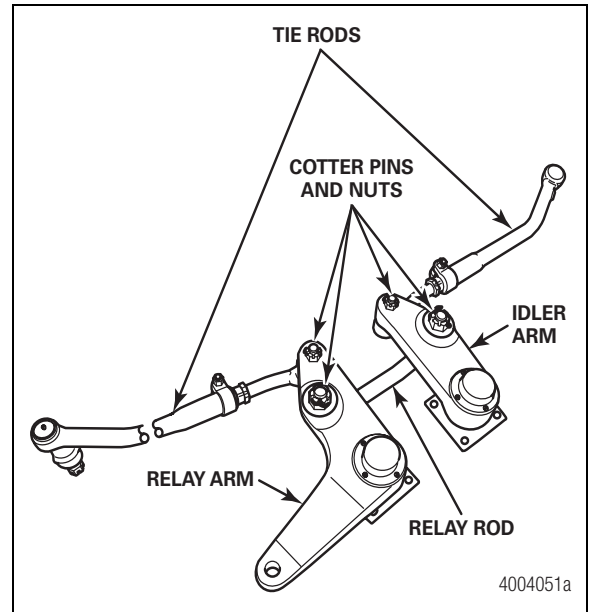

Figure 7.24
5. Position the relay rod into the idler arm and relay arm. Install the castle nuts that secure the relay rod to the idler arm and relay arm. Tighten the nuts to 245-260 lb-ft (332-353 N•m). Continue tightening the nuts to align the nut slot with the cotter pin hole. Do not back off the nuts to align the nut slot with the cotter pin hole. Install the cotter pins. Figure 7.24.
7. Position the tie rods into the idler arm and relay arm. Install the castle nuts and bolts that secure the tie rods to the idler arm and relay arm. Tighten the nuts to 245-260 lb-ft (332-353 N•m). Continue tightening the nuts to align the nut slot with the cotter pin hole. Do not back off the nuts to align the nut slot with the cotter pin hole. Install the cotter pins. Figure 7.24.